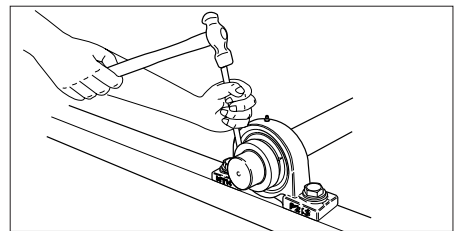

Fig.8.11
- 6) Fit a rod in the hole on the circumference of the eccentric collar and tap it with a hammer so the collar turns in the shaft rotating direction, as shown in **Fig.8.11**.